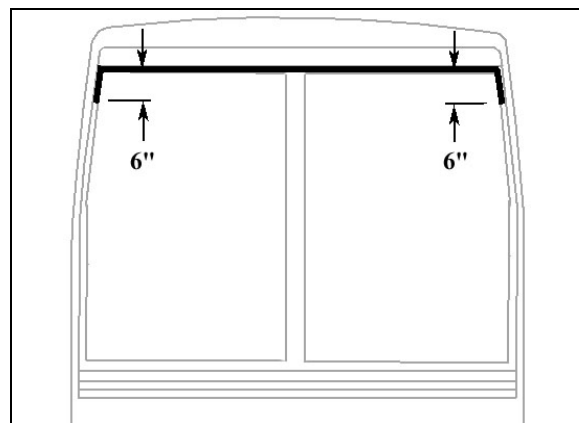

FIGURE 52: APPLICATION OF SIKI 221 BLACK
- At the top of windshield, clean surface between fiberglass and rubber extrusion using Sika 205 (Fig.52).